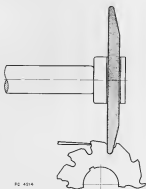

Figure 98B
- 1 The first operation consists of rough grinding the gullet to depth, (Figure 98B) Offset the cutter a sufficient amount to follow the original rake angle. Grinding wheels known as hob wheels, 6" x 1/2" x 1 1/4", with 12° side angle, may be purchased for this operation. If desired, a straight sided wheel of these dimensions may be dressed to the required angle. Grind one gullet at a time, feeding to depth in increments of .005"